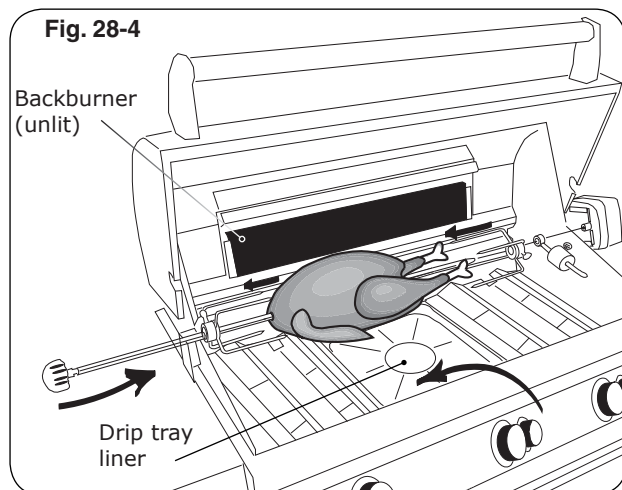

Fig. 28-4
4. Slide the left meat holder onto the rod (and tighten), the meat onto the rod and into the holder, followed by the right meat holder onto the rod and into the meat as shown in Fig. 28-4. Tighten the right meat holder. Be sure the meat is centered and balanced as well as possible.
9. To keep drippings off the burners and simplify cleanup, place Fire Magic® drip tray liners under the meat, if desired (Fig. 28-4).